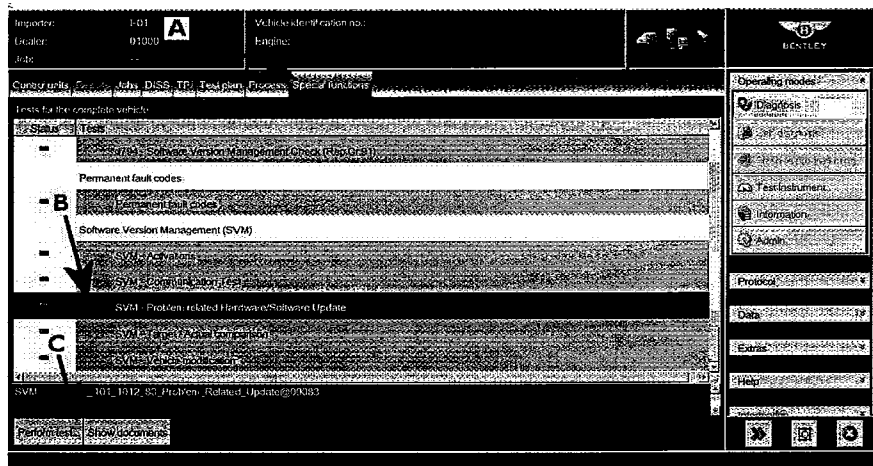

Figure 7
- Select – Special functions as shown in Figure 7 (point A)